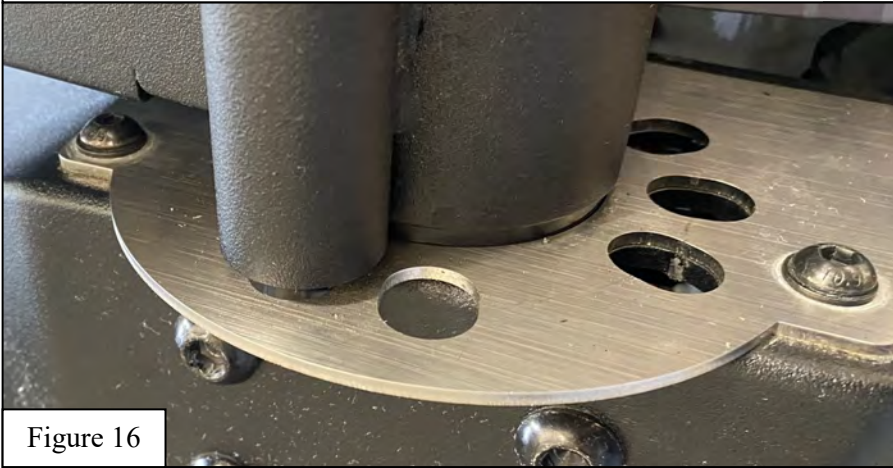

Figure 16
12. Install steel cover and rubberized corner step (Items 6-9) onto the rear bumper assembly (Item 1) as seen on **Figure 16 & 17** using (8) M8 hardware (items 27-30).